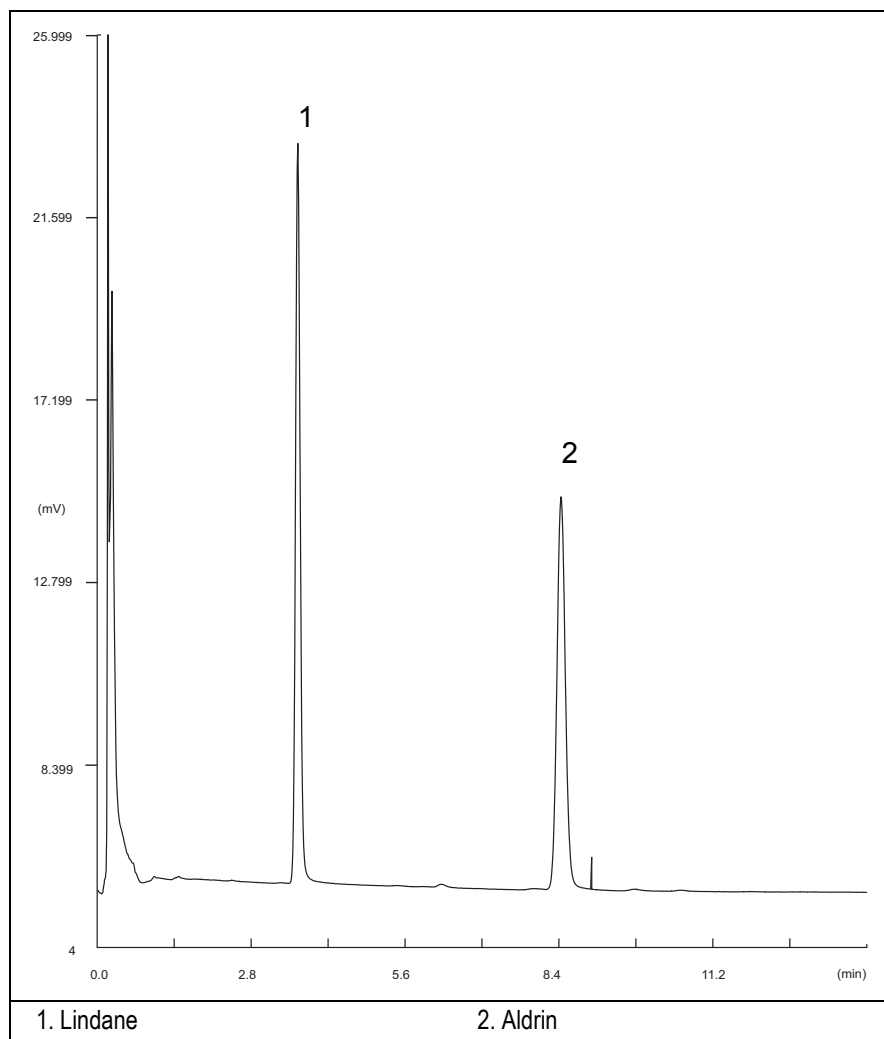

Figure 9-1. ECD-PKD Injection
14. When the GC is ready, inject the test mixture and press **START** on the GC to begin the checkout run. The resulting chromatogram should look like the one shown in *Figure 9.1*.